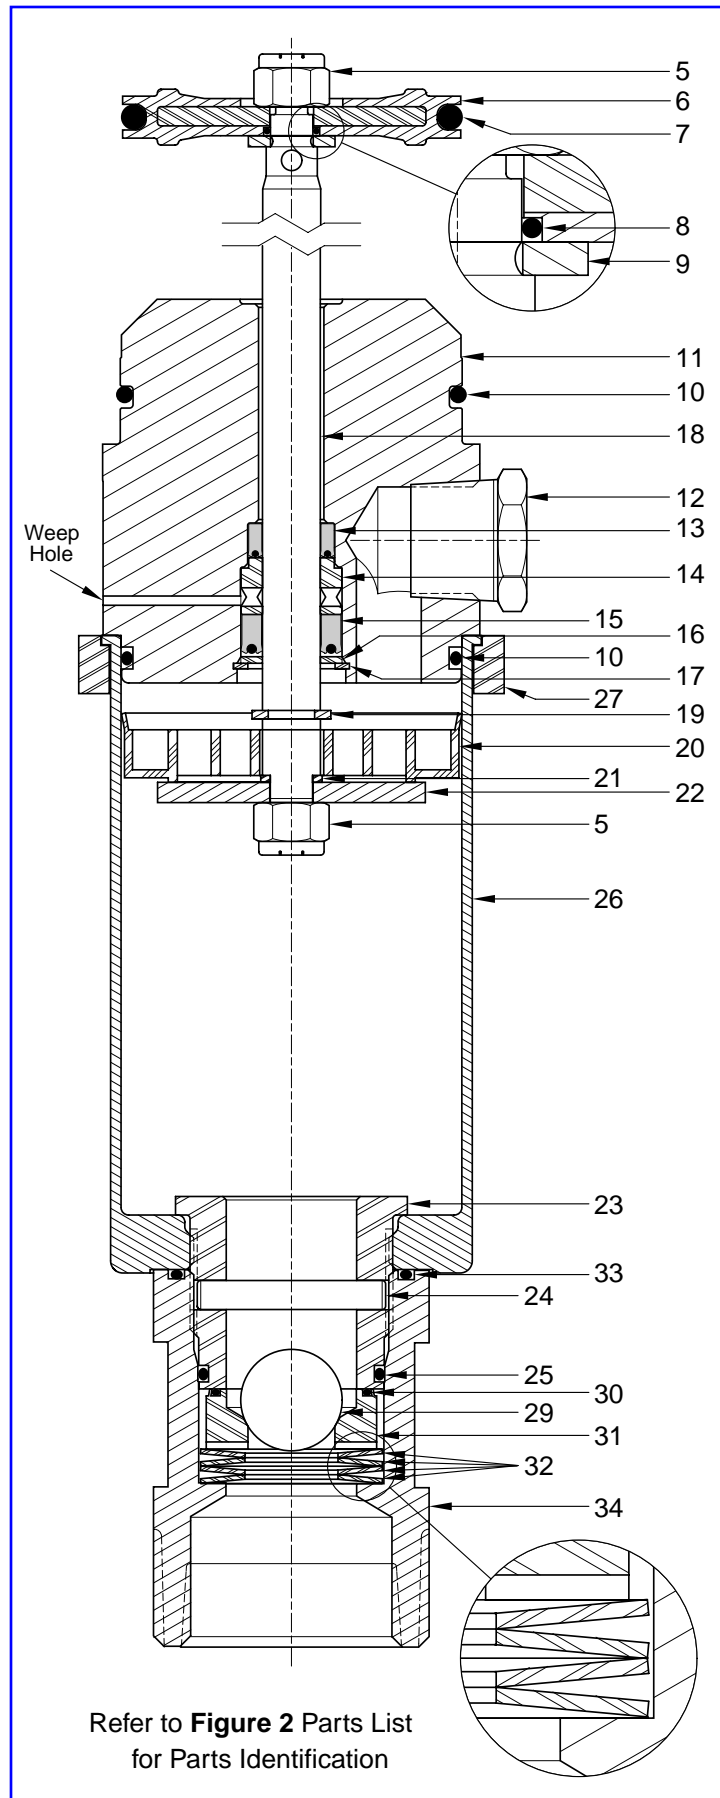

Figure 4 Pump Tube Assembly - Section View
NOTE: Refer to **Figure 4** for a section view of the pump tube assembly.
13. Install O-Ring (25) onto the Stop.
14. Install and seat Spring Discs (32) in an alternate pattern into Valve Body (34).
- See **Figure 4** for details.